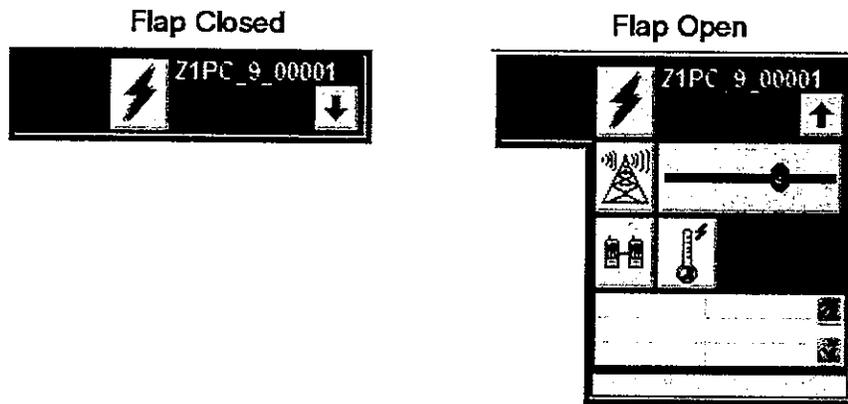

Figure 1-2: Compressed Radio Resource
- **Compressed Resource** – Allows the dispatcher to hide the indicators and controls the radio resource (Figure 1-2). The small arrow button opens and closes the resource to show the controls and indicators. This saves a tremendous amount of space on the screen by allowing the dispatcher to view only the most critical information for any given channel. This type of display is ideal for dispatchers monitoring several different channels where space in the resource folder is at a premium.